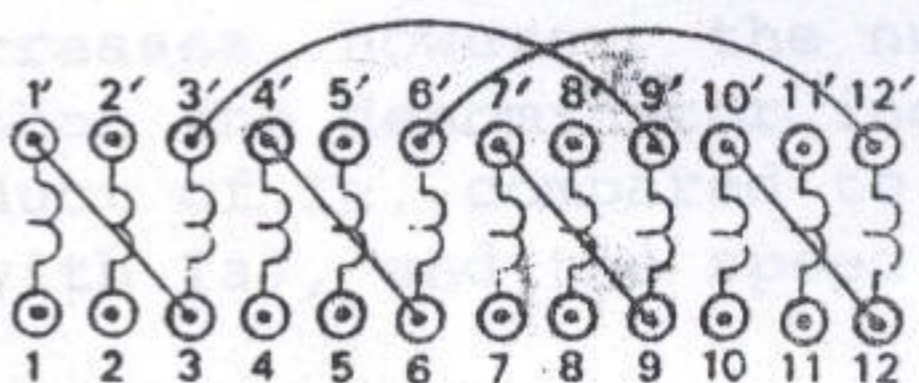

FIGURE 13: SHUNT MOTOR CHARACTERISTICS
1. Connect the Universal Machine to operate as a DC shunt motor as shown in Figure 13. Adjust its rheostat to the minimum resistance (fully counter-clockwise) position.